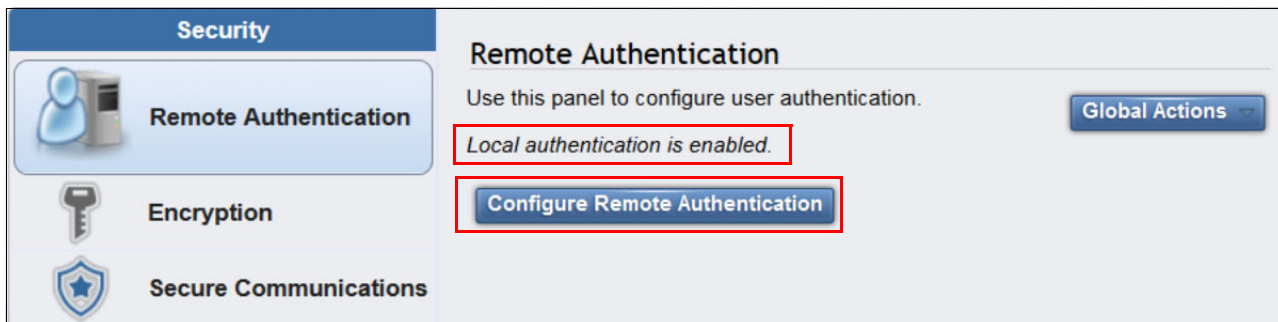

Figure 9-40 Configure Remote Authentication
- Select **Settings** → **Security**, and on the Security menu, click **Remote Authentication**. The default authentication method is *Local authentication is enabled* (Figure 9-40). Click **Configure Remote Authentication**.